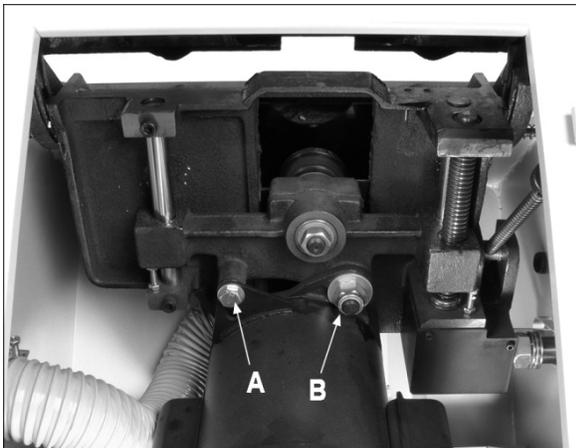

Figure 31
2. Loosen screw (A, Figure 31) and hex nut (B, Figure 31).
3. Press down on motor while retightening screw (A) and hex nut (B).